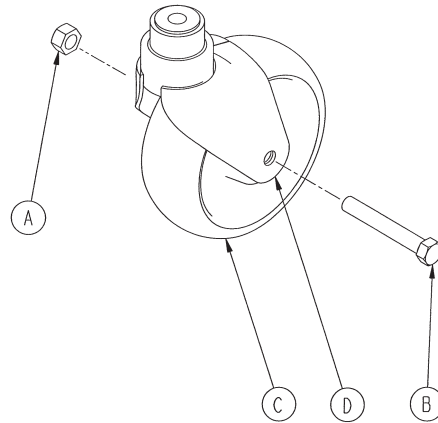

Figure 1 – Caster maintenance
2. Using a 5/8" combination wrench and an 11/16" combination wrench, remove the lock nut (A) from the bolt (B) (Figure 1). Save the lock nut.
8. Using a 3/4" socket and a 3/4" ratchet on the inside of the caster horn and a 3/4" wrench on the caster nut, remove the bolt (B) and caster horn (D) (Figure 1).